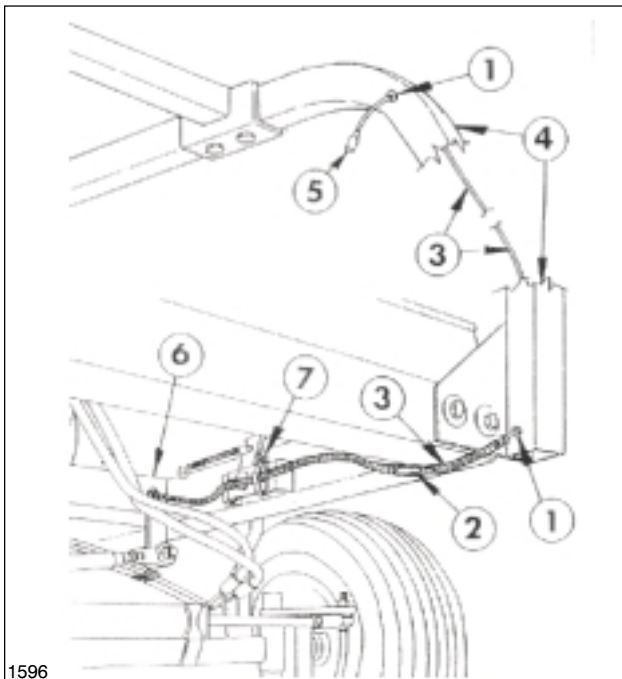

FIG. 1
2. Locate and remove the Blower Wiring Harness and the (2) 5/16" grommets from the parts bags.
3. Remove the wire loom and ring terminal end of the Wiring Harness by disconnecting the connector located approx. 6" inside the wire loom. This section will be reconnected later. See FIG. 1.